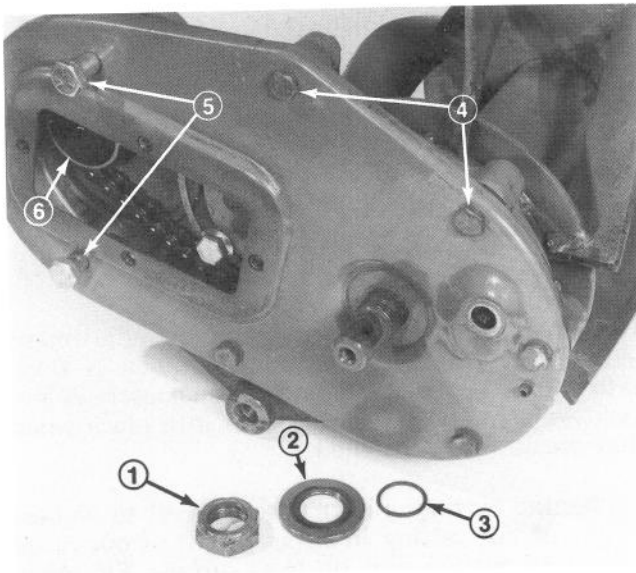

Figure 10
5. Remove shipping cover (Fig. 10). Disassemble locknut, O-ring washer and O-ring from reel shaft and remove chain case cover capscrews, motor mount bolts and cover, taking care not to distort chain case cover (Fig. 10).